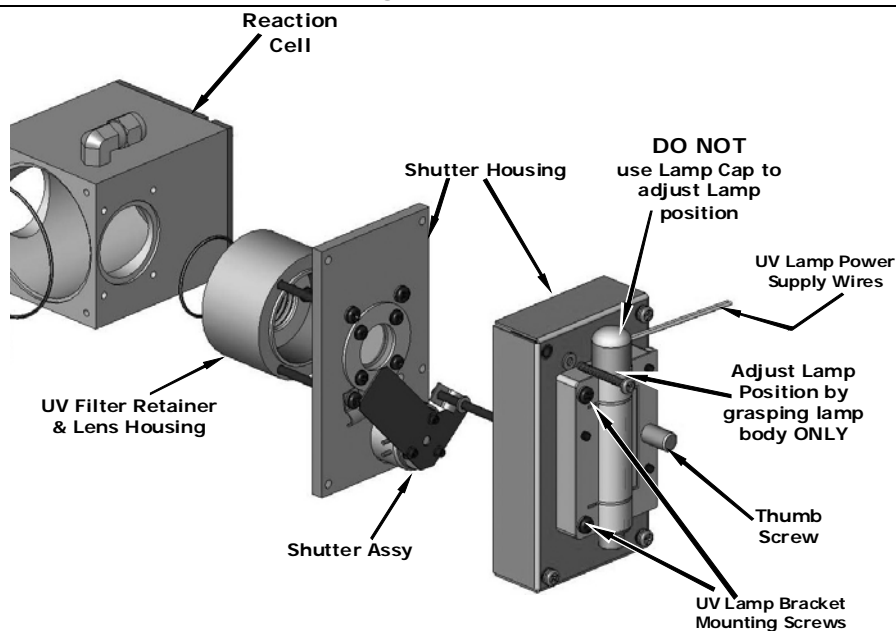

Figure 11-1. Shutter Assembly - Exploded View
2. Slightly loosen the large brass thumbscrew located on the shutter housing (see Figure 11-1) so that the lamp can be moved.
DO NOT grasp the UV lamp by its cap when changing its position (see Figure 11-1). Always grasp the main body of the lamp.